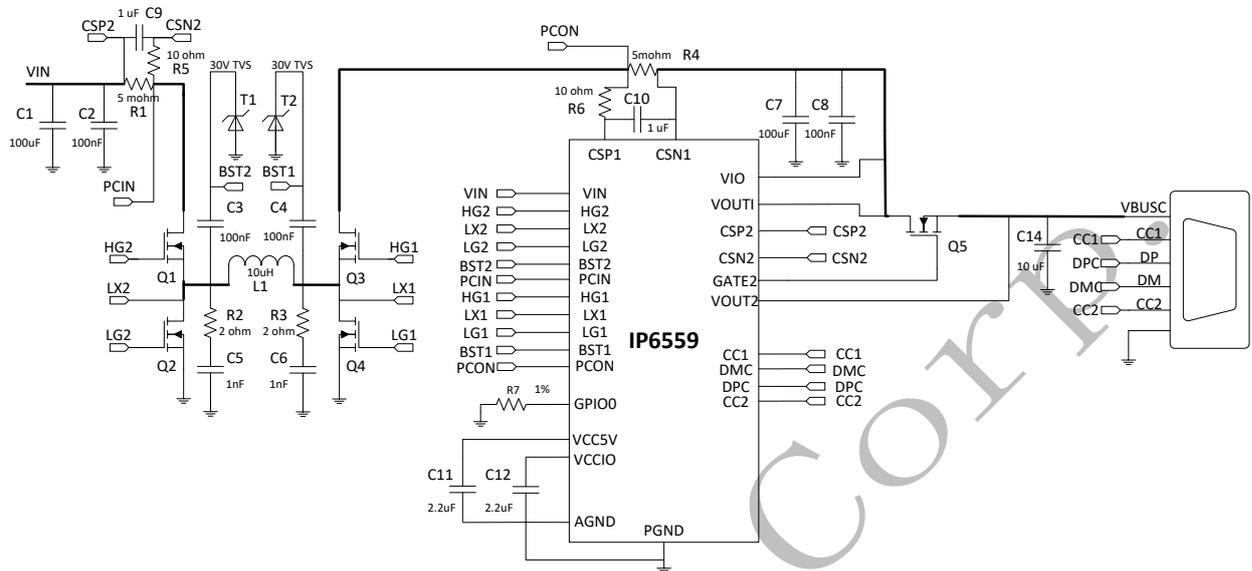
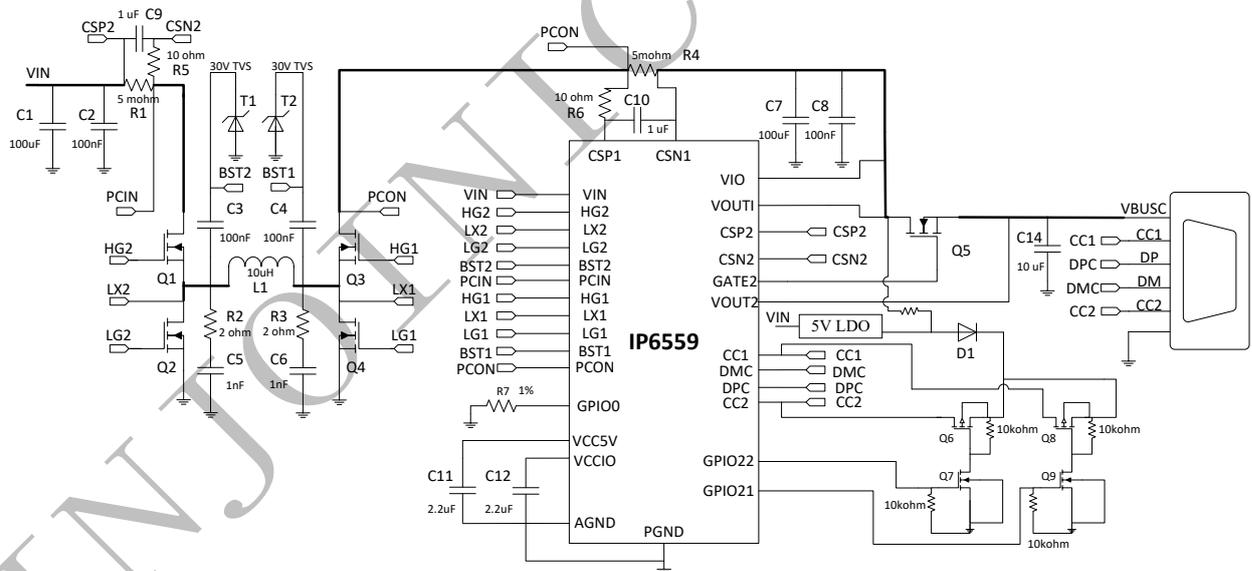

Figure 8. Typical application schematic diagram of IP6559 single C port
Figure 9. Typical application schematic diagram of IP6559 single C port with EMARK identification output
1. In Figure 8 and Figure 9, adjusting the resistance R7 can change the PDO of IP6559_C port C;